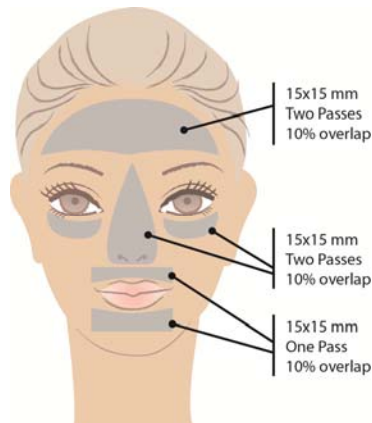

Figure 3
- While maintaining the same parameters, the square 15 x 15 mm spot adapter is used for one additional pass on the upper and lower lip up to the vermillion border. Two full passes are then made over the nose (Figure 3).